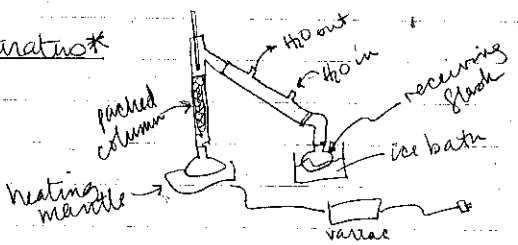

FIG 1 Fractional Distillation Apparatus
- 3) Assemble apparatus in Fig 1.